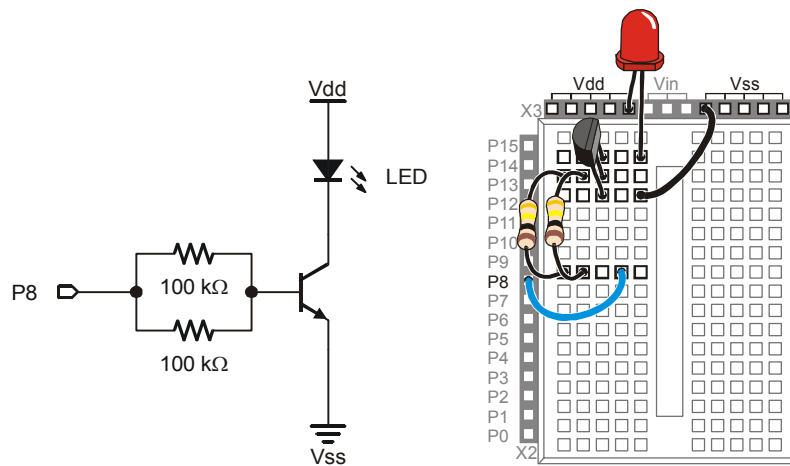

Figure 9-4
If all you want to do is switch a transistor on and off, you can use the circuit shown in Figure 9-4. When the BASIC Stamp sends a high signal to this circuit, it will make it so that the transistor conducts as much current as if you adjusted the potentiometer for maximum brightness. When the BASIC Stamp sends a low signal to this circuit, it will cause the transistor to stop conducting current, and the LED should emit no light.
- ✓ Build the circuit shown in Figure 9-4.